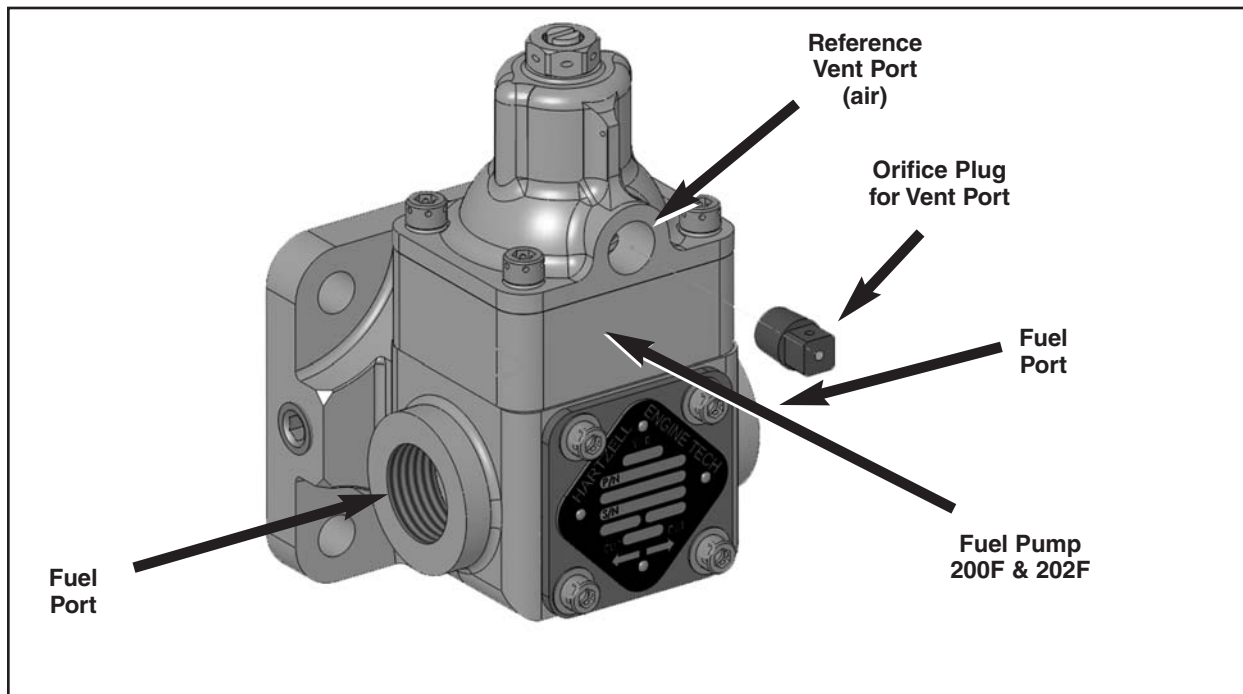
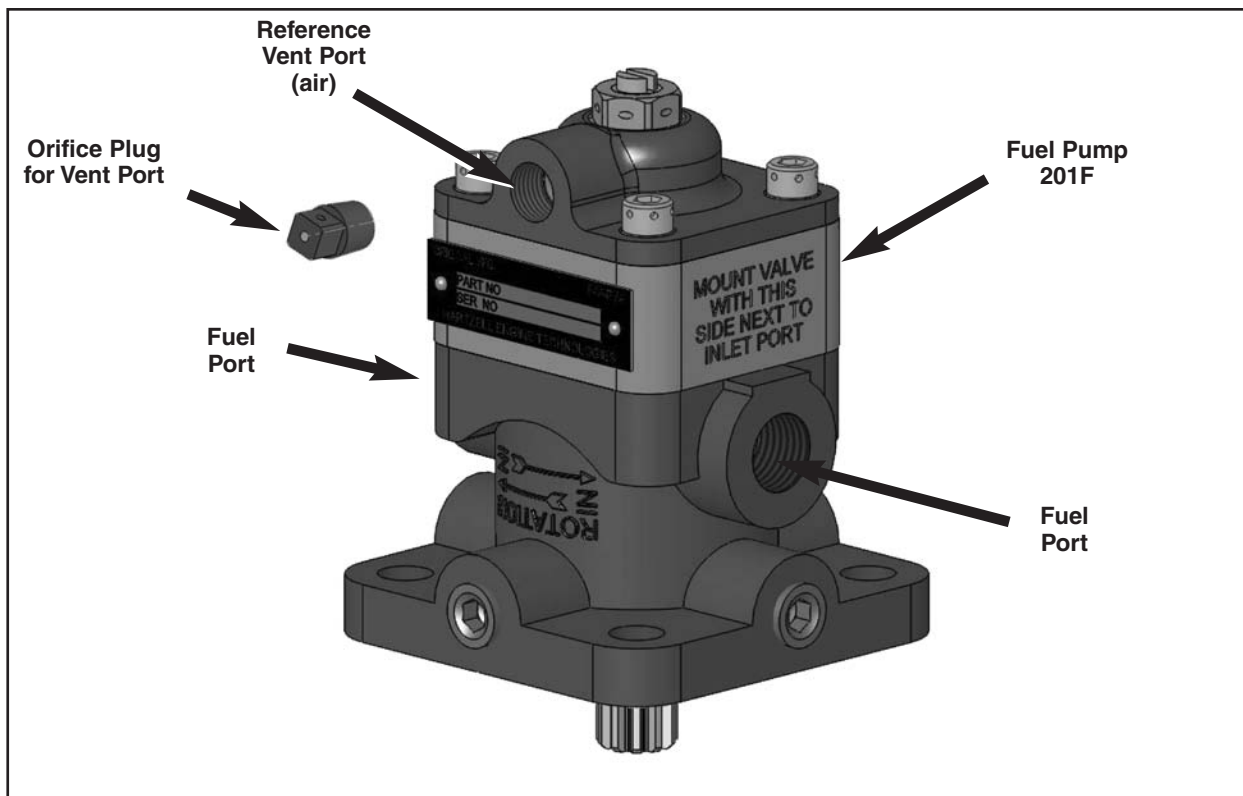

Figure 1 - 200F & 202F Identification
Figure 2 - 201F Identification
- (1) The HET series fuel pumps use the reference vent port in several ways. The port may have an orifice plug installed, a fitting for an upper deck reference line or a fitting to connect to the engine turbocharger reference.
- (a) Inspection of the orifice plug requires only a visual inspection. Look around the plug and into the orifice for fuel or blue dye stains. Refer to Fig. 1 or Fig. 2.